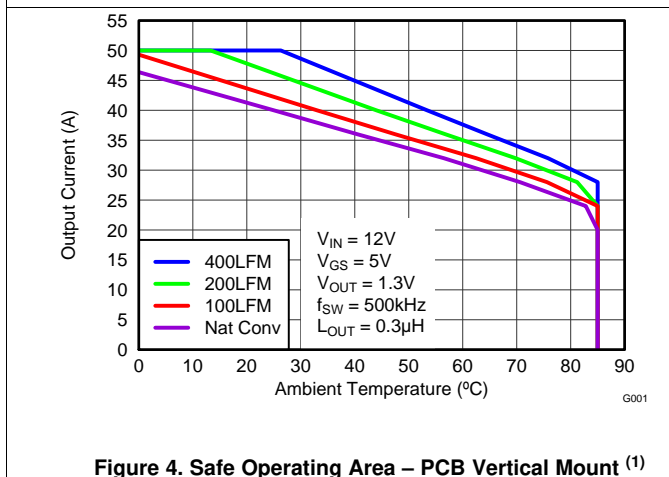

Figure 4. Safe Operating Area – PCB Vertical Mount ⁽¹⁾
The SOA curves in the CSD86360Q5D data sheet provides guidance on the temperature boundaries within an operating system by incorporating the thermal resistance and system power loss. **Figure 4** to **Figure 6** outline the temperature and airflow conditions required for a given load current. The area under the curve dictates the safe operating area. All the curves are based on measurements made on a PCB design with dimensions of 4 in (W) × 3.5 in (L) × 0.062 in (T) and 6 copper layers of 1-oz copper thickness.